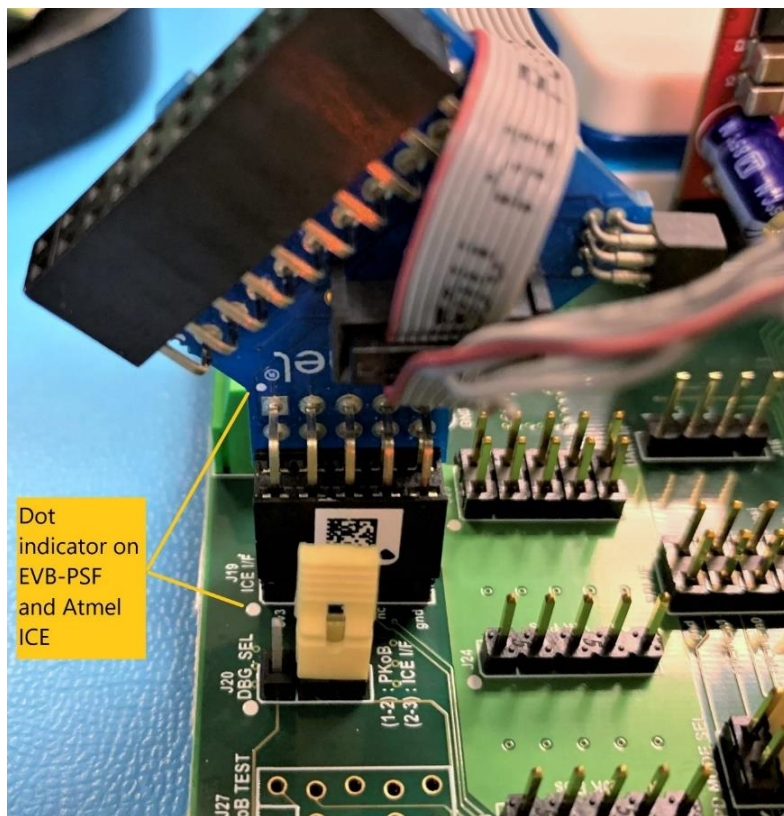

Figure 5.3 Connecting Atmel-ICE Debugger to J19
4. Connect one end of Atmel ICE to PC using USB Micro-B cable and the other end to J19 of EVB-PSF. A dot (encircled in image) will be present in Atmel ICE Adapter board which gives an indication that this pin should be connected to 3v3 of J19. Refer Fig 5.3